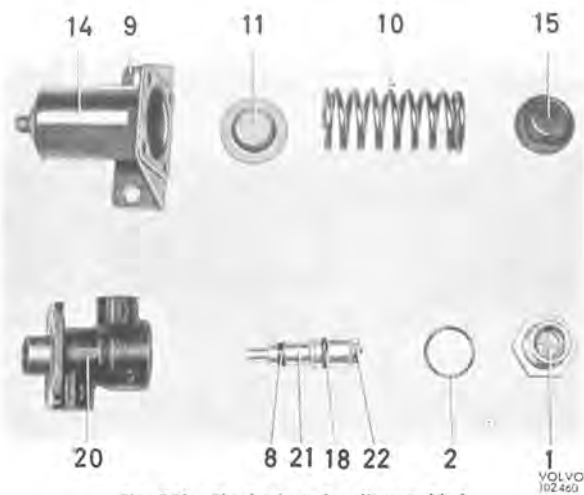

Fig. 5-59. The brake valve disassembled
- Screw out the plug (1) and press out the plunger complete, see Fig. 5-59.